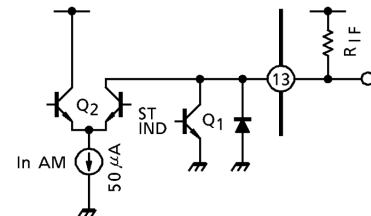

Fig.5 Internal circuit of pin⑬
- The terminal of pin(13) is built in stereo indicator function and modulated AM IF signal output. In AM mode,  $R_{IF}$  ( $3k\Omega$  or less) should be connected between  $V_{CC}$  and pin(13), or pin(13) should be connected to  $V_{CC}$  directly. (Fig.5) In case that  $R_{IF} > 3k\Omega$  or pin (13) is opened, this IC doesn't operate normally in AM mode. Because transistor Q2 is saturated.